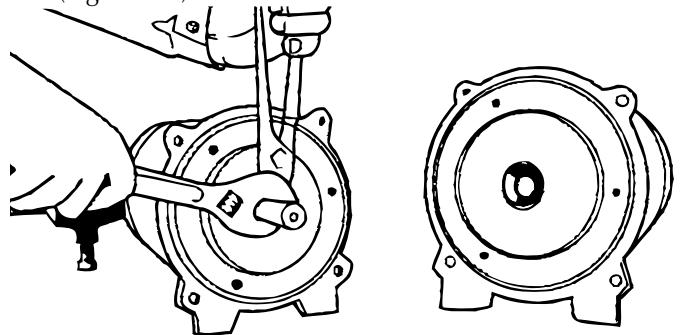

Figure 13 - Remove Venturi
4. On 1/2 HP models, hold impeller with pliers and unscrew venturi tube. On 3/4 and 1 HP models, venturi tube is screwed into the pump case (Figure 13.)